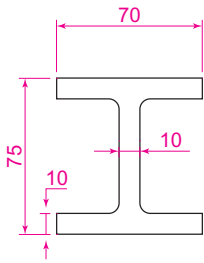

Fig. 12.38 Example **Sweep** – the outline to be swept
1. Construct the pline outline Fig. 12.38 in the **ViewCube/Top** view.